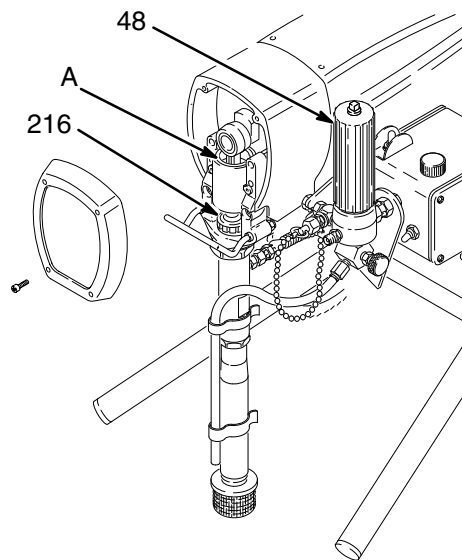

Fig. 6
1. **Check the packing nut/wet-cup (216) daily.** Relieve the pressure. Keep the packing nut/wet-cup 1/3 full with TSL at all times to help prevent fluid buildup on the piston rod and premature wear of packings. Tighten the packing nut just enough to stop leakage. Overtightening may cause binding and excessive packing wear. Use a screwdriver and light hammer to adjust the nut. See Fig. 6.
2. **Clean the fluid filter (48) often** and whenever the sprayer is stored. First relieve pressure. See manual 307–273 for the cleaning procedure.
3. **Fill the connecting rod cavity (A) with motor oil** every 100 hours of operation. Relieve pressure first. See Fig. 6.